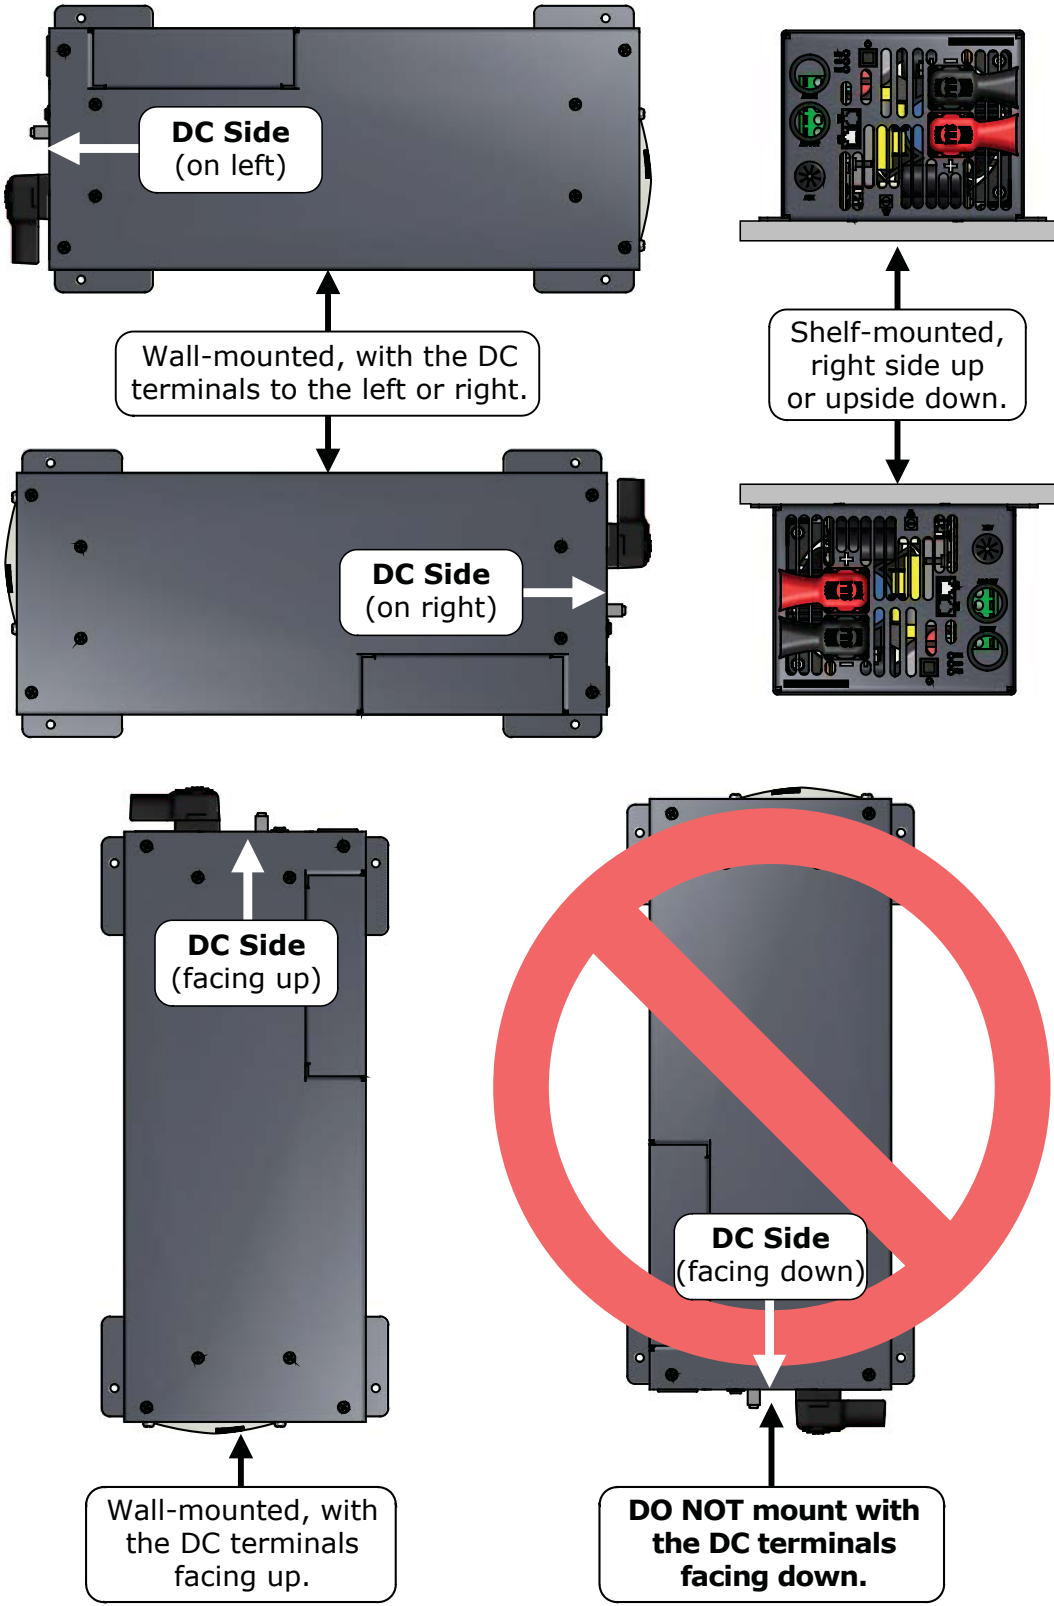

Figure 2-2, Approved Mounting Orientations (MNL3648M)
- 10 Mounting Flange** – used to secure the inverter to a shelf or wall. See Figure 2-2.
- Regulatory requirements dictate how the Little Rosie can be mounted. Refer to Figure 2-2 to determine how you can mount your Little Rosie inverter.